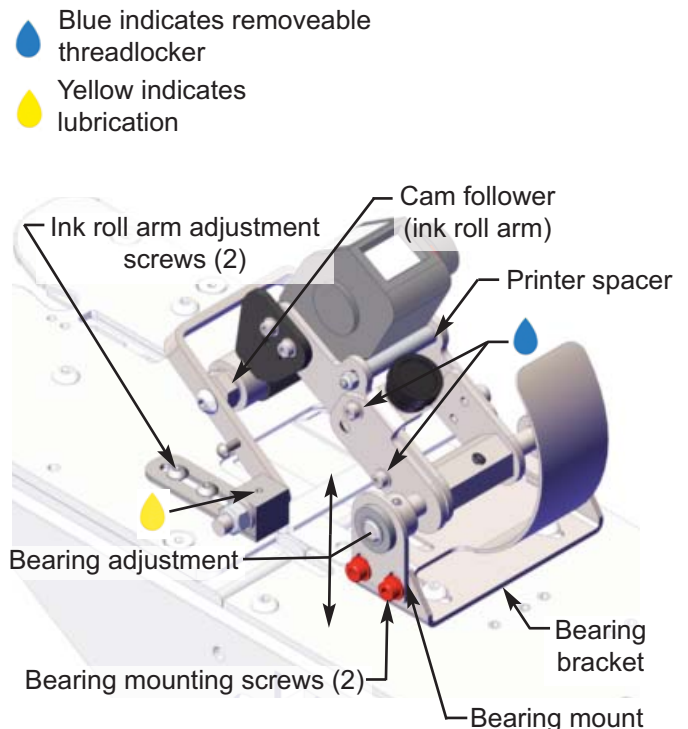

Figure 3.18
The printhead assembly can be moved backward or forward to locate the printed image on the closure. Before adjusting be sure the top of the bandhead is rotated back against the spacer (Refer to Figure 3.18)
1. To adjust, loosen the two screws, which secure the ink roll arm mount to the top track (Figure 3.18).
R. INKING FORCE- SIDE TO SIDE: Figure 3.18 - 3.20
S. PRINT FORCE- SIDE TO SIDE: Figure 3.18
1. Adjust the print force to a very light setting to accentuate the variation in the print quality. This indicates how flat the typeface is to the print surface. Verify that the type is being properly inked. If the line of printing is not uniform, the bearing mount can be moved vertically to raise or lower that end of the printer shaft as shown in Figure 3.18.
For the band printer, check that the top of the band-head has been rotated against the spacer (Figure 3.18). If needed, the spacer can be moved slightly on its mounting screw.